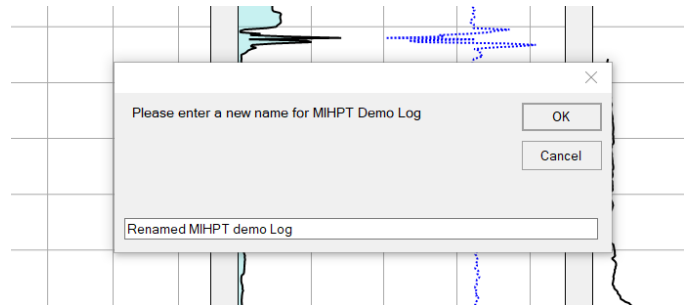

Figure 43: Entering a new Log name
3. Enter the correct Log name when prompted (Fig. 43).